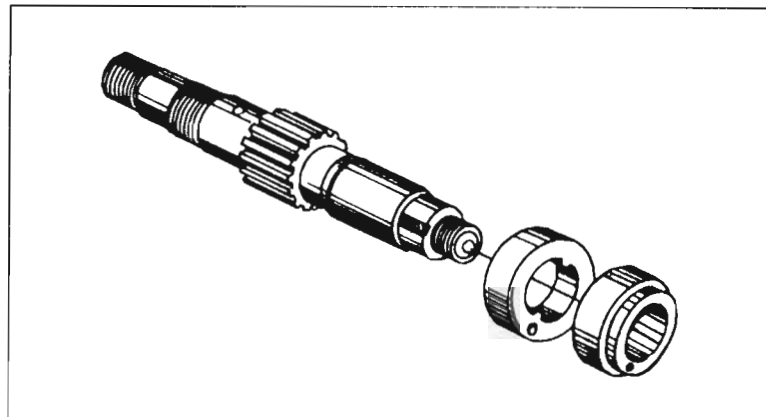

Figure 3-14
4. Assemble the cam shaft spacer (#3) and lead cam holder (#1) backwards on the lead cam shaft (#10). (Figure 3-14).
5. Using lead cam holder as a drill jig, center drill hole with $\frac{5}{16}$ " diameter center drill in cam shaft spacer (Figure 3-14).